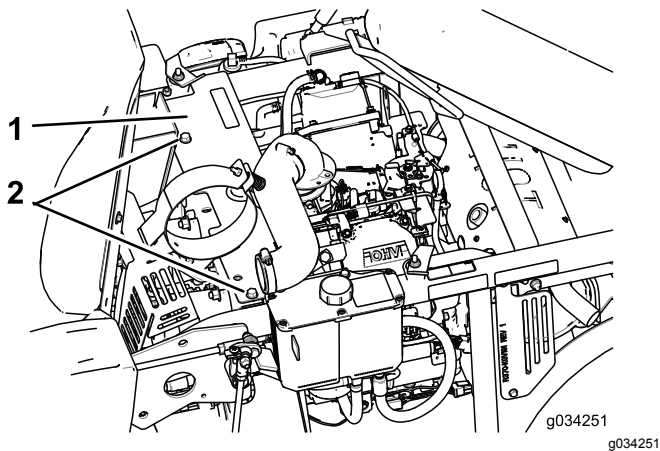

Figure 30
- 7. Lubricate the pump-belt idler arm (Figure 30).